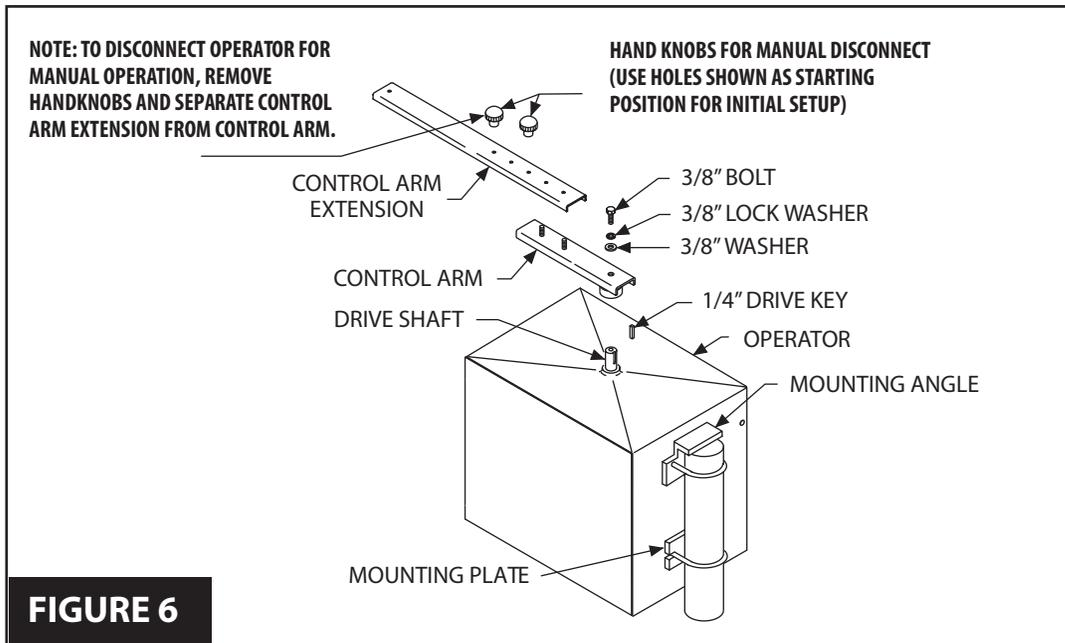

FIGURE 6
2. Set control arm on output shaft of operator without drive key, and install control arm extension using hand knobs to secure position. See **Figure 6**.
- c. Relocate control arm extension on control arm to a different hole pattern then start position. See **Figure 6**.
8. When the desired open and closed gate position have been achieved, place gate in the fully closed position and remove control arm extension from control arm. See **Figure 6**.
9. Remove control arm from operator drive shaft and insert drive key. See **Figure 6**.
10. Replace control arm on operator drive shaft with drive key and secure with 3/8 inch bolt. See **Figure 6**.
11. Replace control arm extension on control arm and secure with hand knobs as shown in **Figure 6**.
13. Control arm extension may now be attached to control arm as in **Figure 6**.